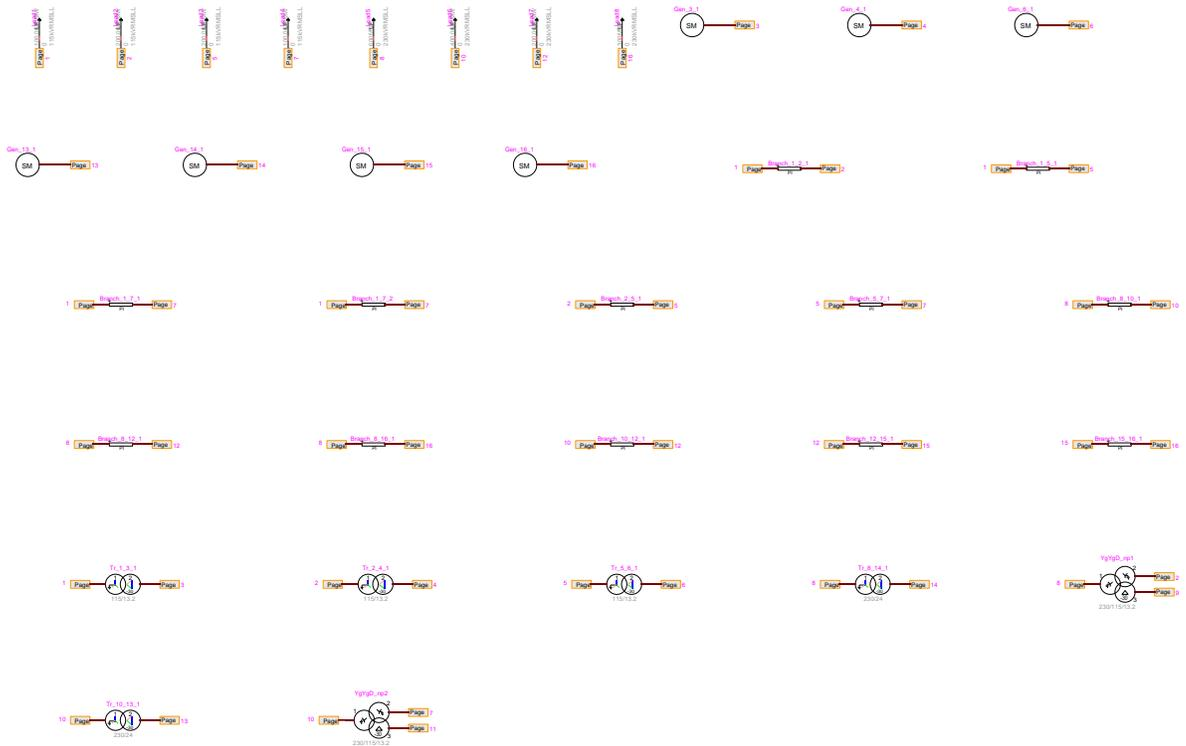

Figure 2: Device organization when 'None / Virtual connections is used
- None / Virtual Connections:** In this configuration, devices are positioned one after the other without any organization. They are then connected using power page connectors (Figure 2)